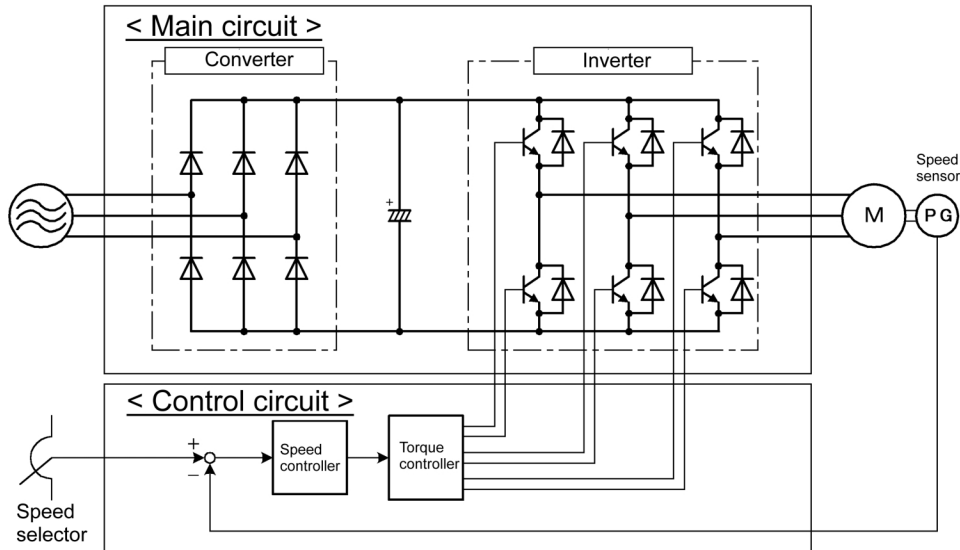

Figure 1-3-5 Basic Configuration of Closed Loop Speed Control System
The basic configuration of the closed loop speed control system is shown in Figure 1-3-5. The speed information is fed back from a speed sensor such as pulse encoder (PG) and compared with the speed reference to control the inverter output frequency so that the speed reference will agree to the speed sensor reading.